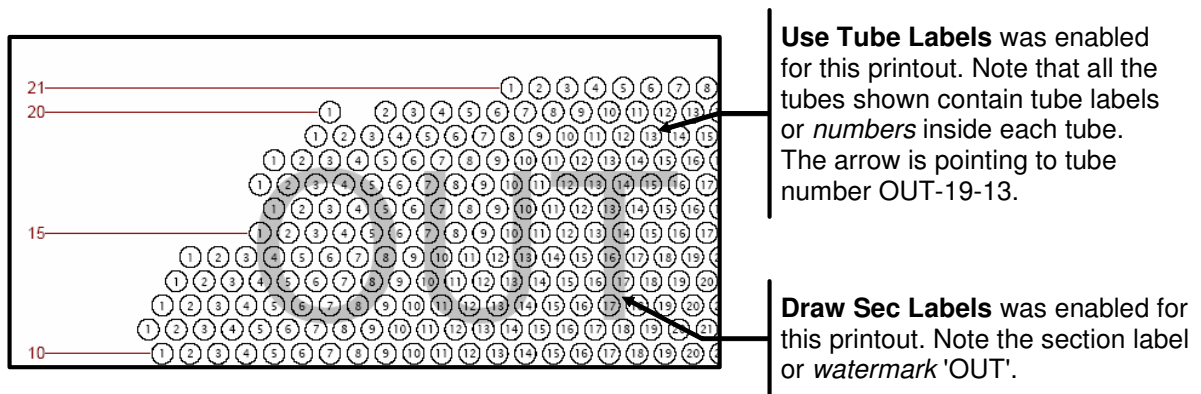

Figure 23. Examples of Tube Labels and Section Labels (*Watermarks*)
- ❑ **Draw Sec Labels:** When enabled (*green*), section labels (*or watermarks*) will be printed on the hard-copy map by the MakeComp & DBMS software modules. These *watermarks* will appear only on the hard-copy printout as shown in Figure 23.
- ❑ **Use Tube Labels:** When enabled (*green*), tube numbers will be printed within each tube on the hard-copy tubesheet map in the MakeComp & DBMS software modules. These tube numbers will appear only on the hard-copy printout as shown in Figure 23.